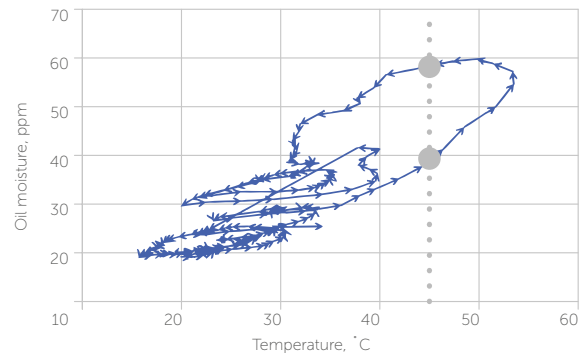

Figure 5. Moisture dynamics: hysteresis**
4. As the water diffusion time is faster from the paper to the oil than the opposite it is possible to reach on the same transformer, several very different PPM values for the same oil temperature even at a few days difference (see figure 5).